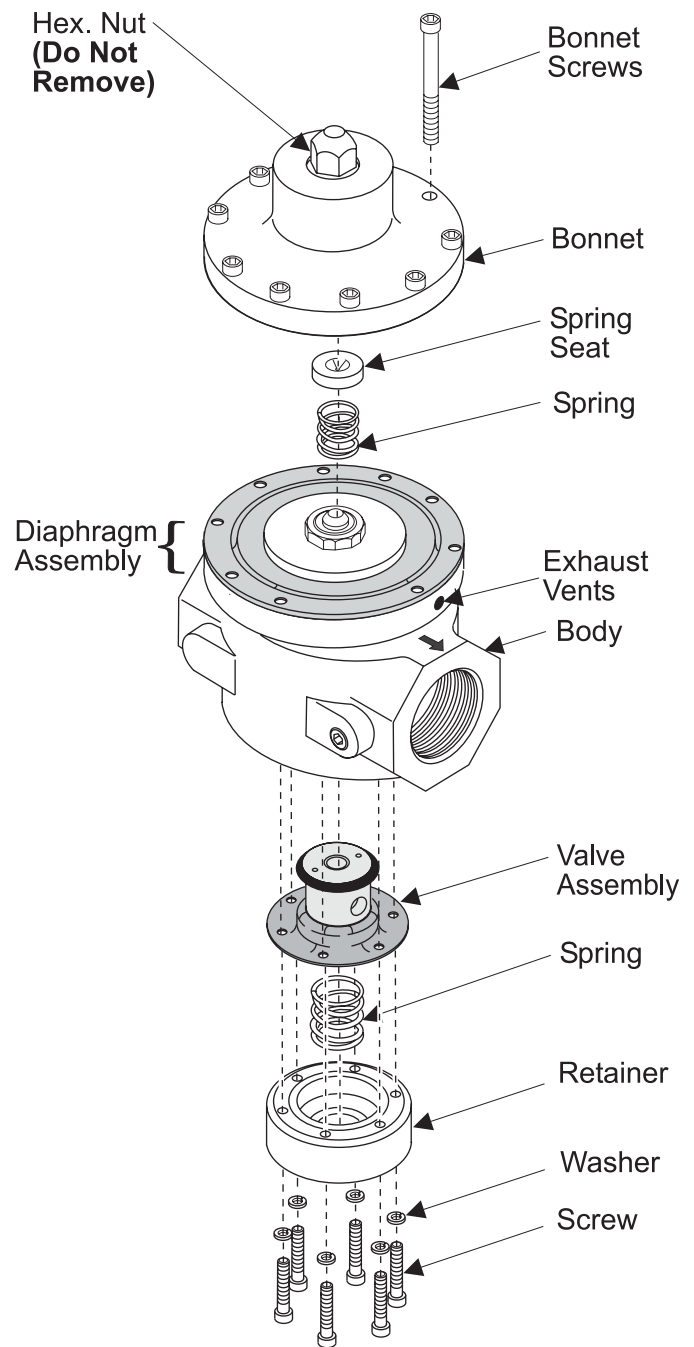

Figure 2
2. Remove the six screws from the bottom of unit. For more information, see Figure 2.
3. Remove the Valve Assembly. For more information, see Figure 2.
5. Replace the assembly carefully. Ensure that the exhaust vents in the spacer ring are clear. For more information, see Figure 2.